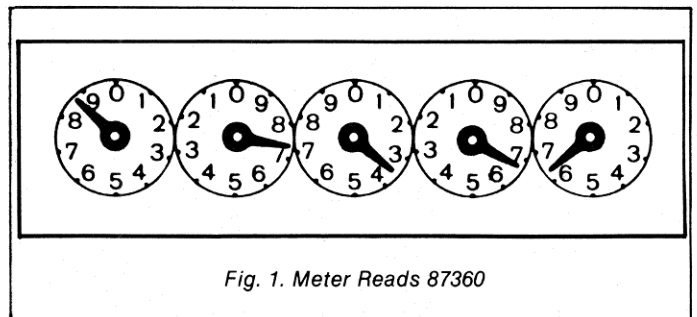

Fig. 1. Meter Reads 87360
Once you find the meter the hard part is over. There it is, five smiling faces looking at you (Fig. 1). To read it, keep two important things in mind: (1) When the pointer is between two numbers, record the smaller number,
(2) the dial on the far right is always read as zero.